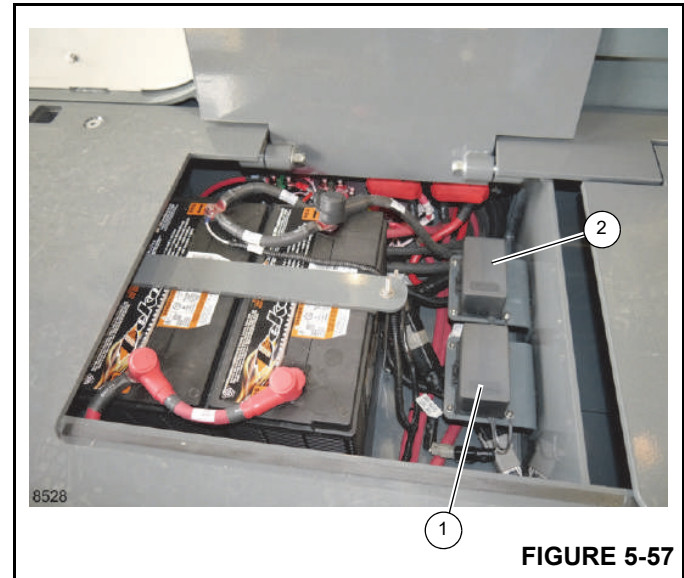

FIGURE 5-57
There are two fuse panels in the battery compartment, fuse block 3 (1, Figure 5-57) and fuse block 4 (2). Refer to TABLE 5-1 and TABLE 5-2 for identification of the fuses.